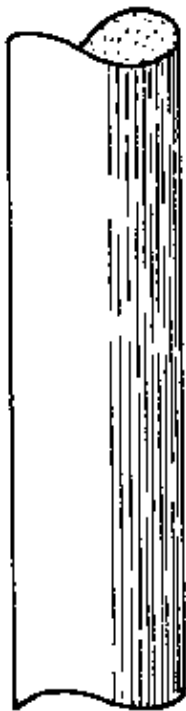

Fig. 1
– CIRCULAR BARS: Round, smooth bars are called circular bars and are available in diameters ranging from 5 mm to 28 mm (Fig. 1, next page). The four sizes most often used in Rural Building have diameters of 6 mm (1/4"), 10 mm (3/8"), 12 mm (1/2") and 18 mm (3/4").